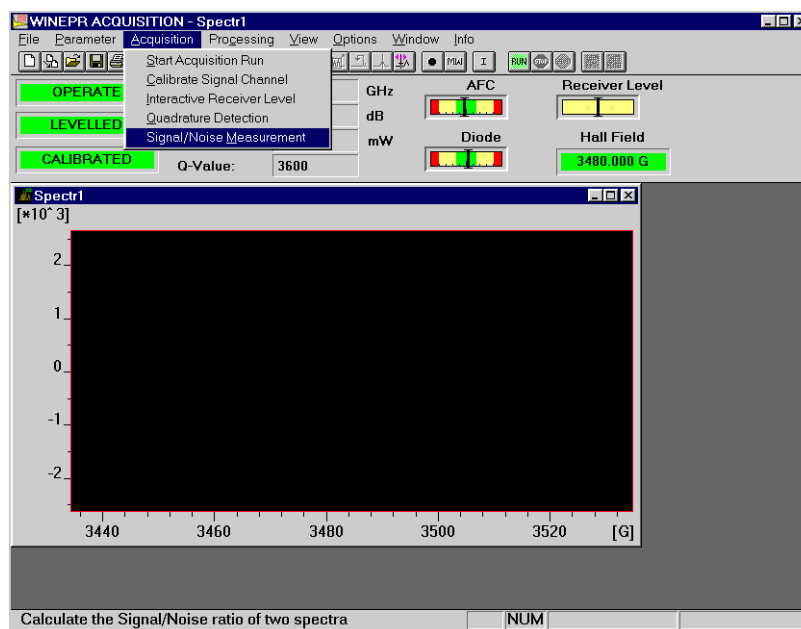

Figure 9-3 Open Signal/Noise Measurement window.
1. **Open the Signal/Noise Ratio Test window.** Open the Signal/Noise Ratio Test window under the Acquisition drop-down menu. (See Figure 9-3.) The window has two empty spectra and each one contains a set of default parameters for signal or noise measurement. Click either one of the windows with the left mouse button to activate that window. The parameters shown on the right will be assigned to that measurement.